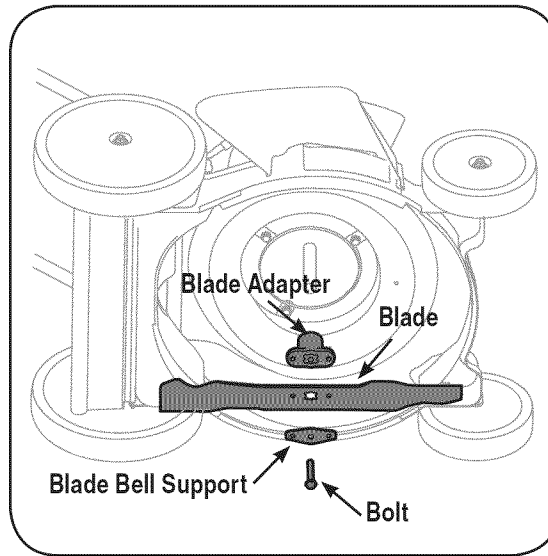

Figure 5-3: Remove the bolt, support, and adapter to access the blade.
2. Remove the bolt and the blade bell support which hold the blade and the blade adapter to the engine crankshaft. See Figure 5-3.
3. Remove blade and adapter from the crankshaft. See Figure 5-3.